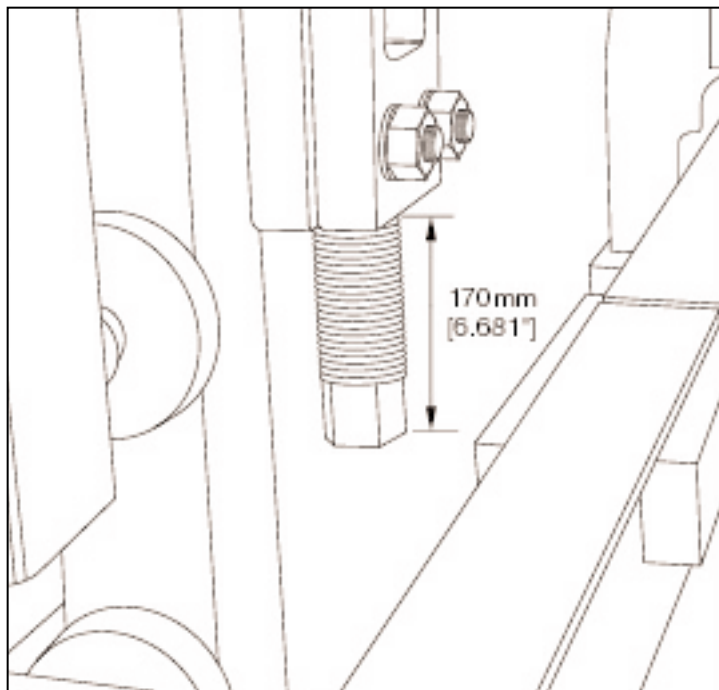

Figure 18.16 UPPER HEIGHT STOPS.
18.1.9 Adjust the upper height stops so that **170mm [6.681"]** extend past the bottom of the castings as shown on figure 18.16.